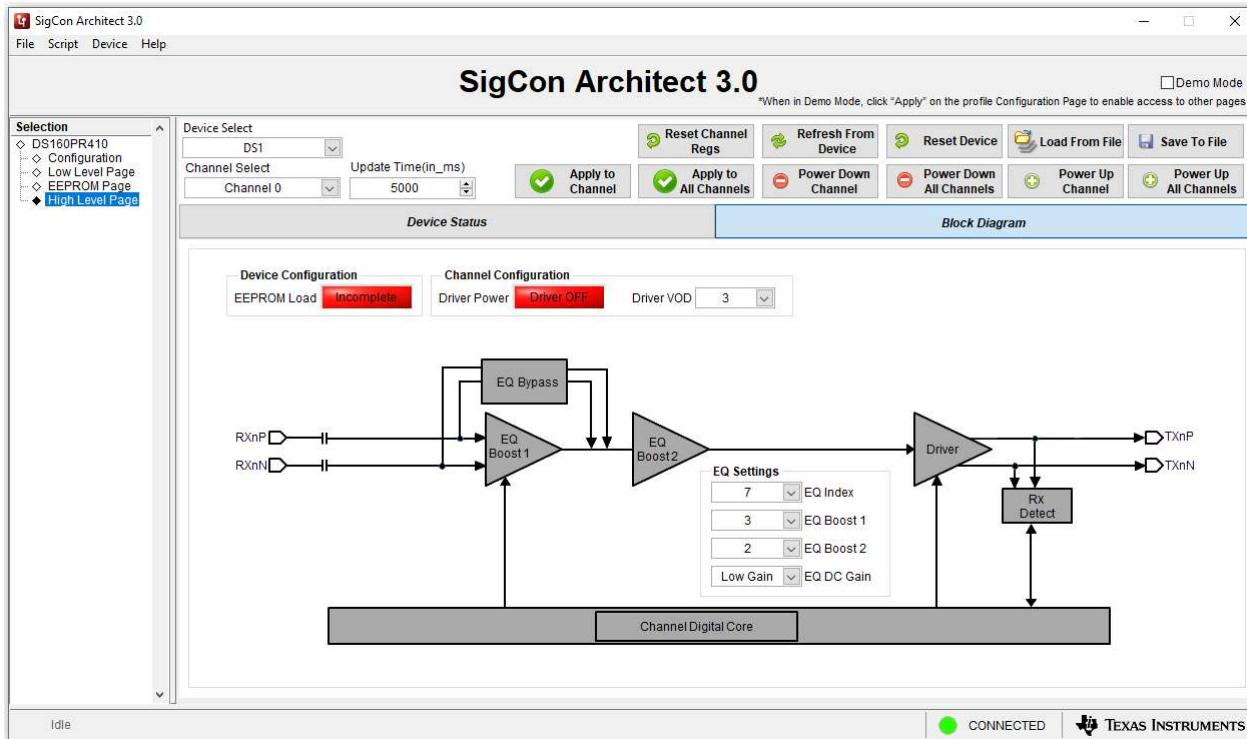

Figure 1-1. SigCon Architect DS160PR410 High Level Page
1. Check that the shunts are at the following positions as shown in Figure 1-1.
- The board is configured for any PCIe bus width (PRSNT signal controls set as shown in Figure 1-1 using J6, J7, J8, and J9 headers).
11. In the DS160PR410 High Level Page, select Block Diagram as shown in Figure 1-1.